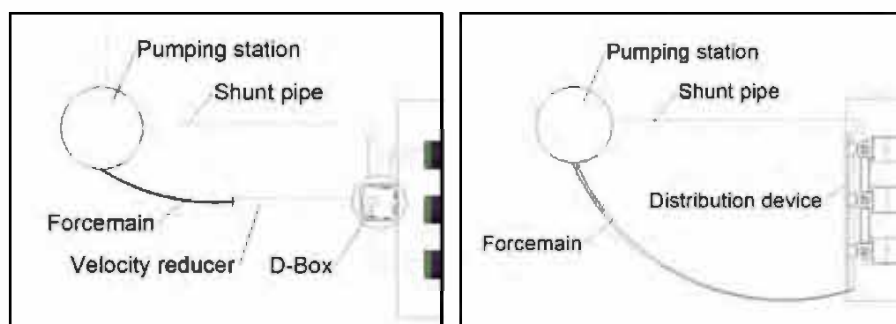

Figure 17. A. Pumping in D-Box / B. LPDS
- Install a shunt pipe (also known as an air by-pass pipe) between the treatment system and the pumping station to re-establish the air circuit, as seen in Figure 17;